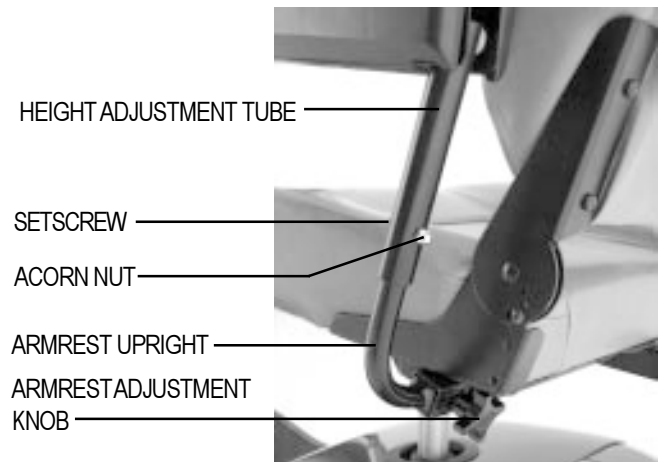

FIGURE 16. ARMREST ADJUSTMENTS
1. Loosen the armrest adjustment knobs at the back of the seat frame. See figure 16.
Refer to figure 16 when adjusting the armrest height.
1. Loosen the setscrew on the side of the height adjustment tube with the 1/8-in. hex key. See figure 16.